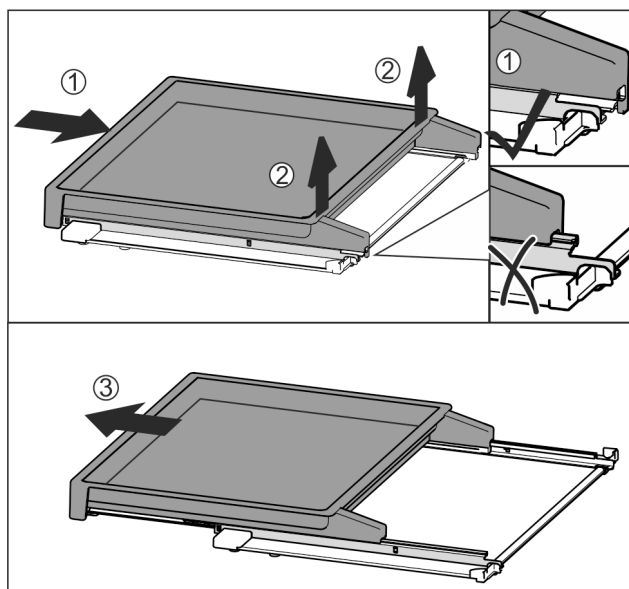

Fig. 112
- Slide the pull-out board all the way in Fig. 112 (1).
- Release the clips at the back Fig. 112 (2).
- Remove the pull-out board from the front Fig. 112 (3).